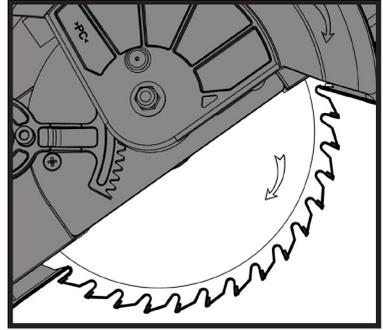

Fig 5
7. Install the new 165 mm (6.5") blade. Make sure the rotation arrow on the blade matches the clockwise rotation arrow on the upper guard. The blade teeth should always point downward at the front of the saw. (Fig 5)